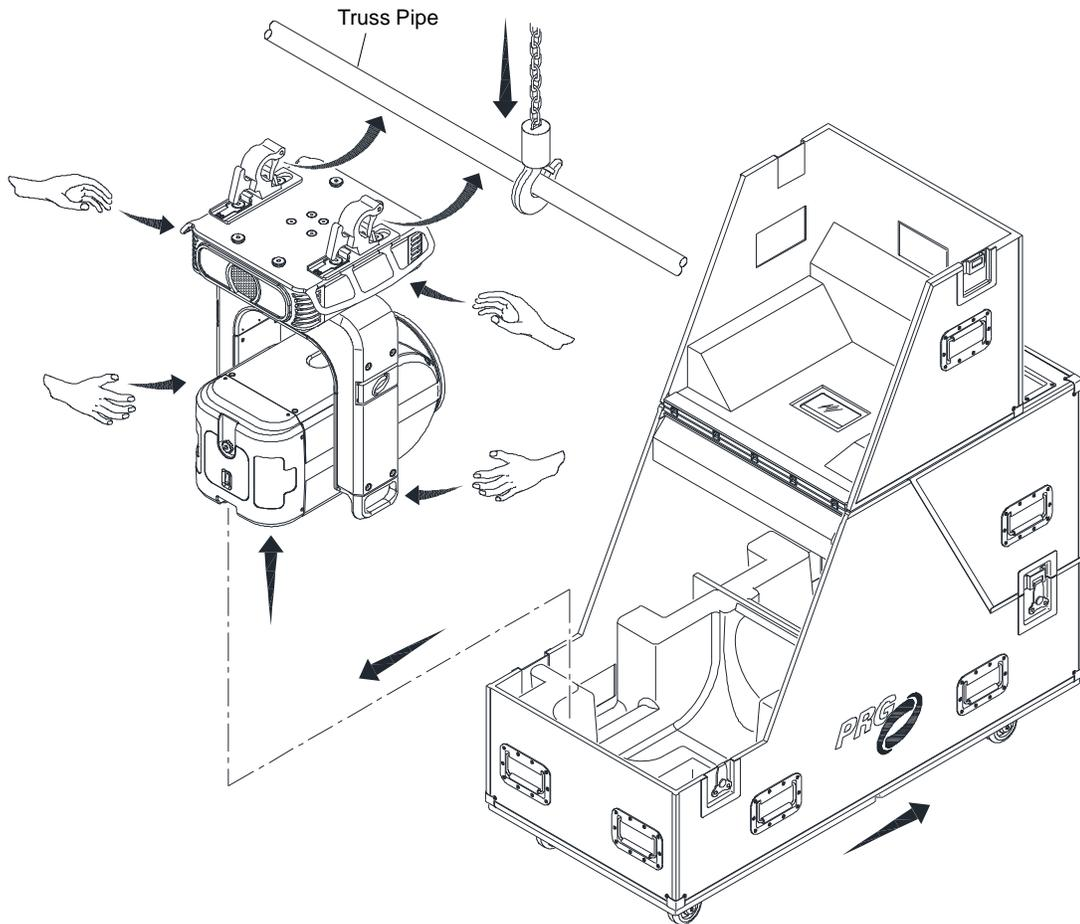

Figure 2-5: Removing Luminaire From Case
- Step 2. Roll case to mounting location as required (**Figure 2-5**).